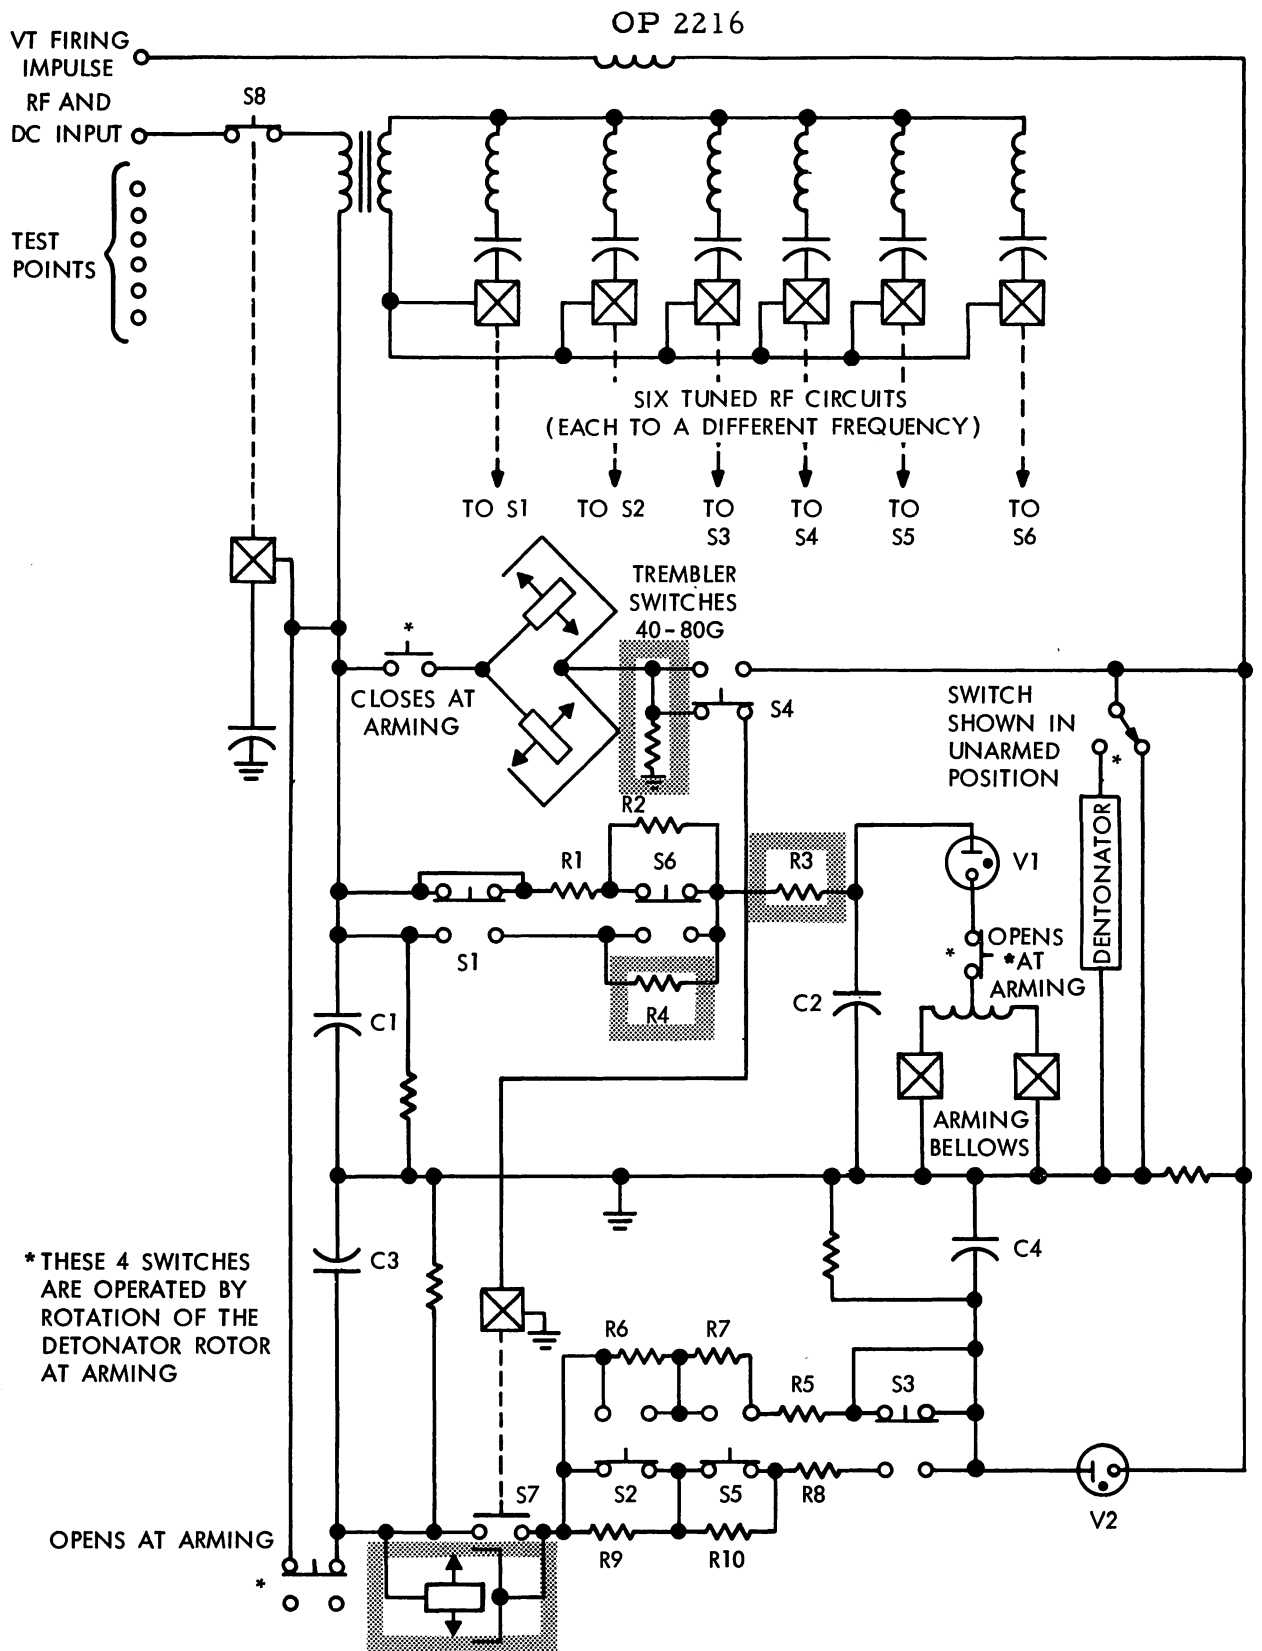

Figure 2-3 Fuze M990C and D; Schematic
Figures 2-3 and 2-4 are schematics of fuzes M990C and D, and Fuze M990E, respectively. Circuit differences between the C and D series and the E series are indicated by the shaded areas on Figure 2-3.
3. As shown in Figure 2-3, each tuned circuit is associated with one of the squibs S1 through S6. When the circuit is actuated, the associated squib is blown and its switch (shown by means of the broken lines) is thereby operated. Switches in the figure are shown in their unoperated positions.
7. If a proximity sensing element is used in conjunction with the M990, fuze detonation is caused by a different process: The VT Firing signal pulse is connected directly to the detonator and will over-ride any functioning delay that the fuze may have (Figs. 2-3 and 2-4). Should the sensing element fail to provide the VT firing pulse, the selected M990 functioning delay will operate at impact, thus acting as a backup.
The M990 fuze is detonated by a firing pulse from the M20 as shown in Figures 2-3 and 2-4. In the absence of a VT pulse, a backup function is provided by the trembler switches as in non-VT operation.